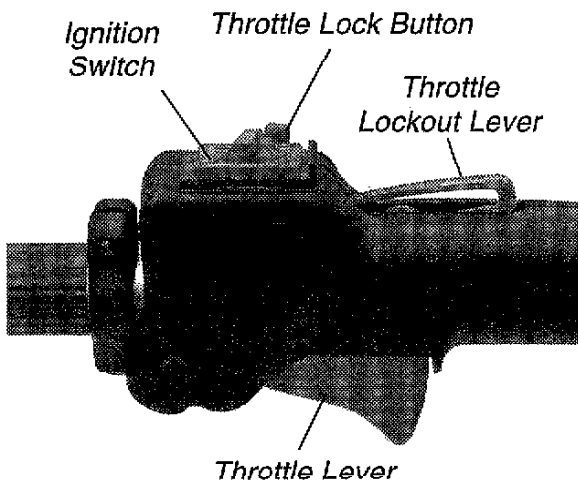

Figure 20
1. Set the throttle trigger to “fast idle” as follows (Figure 20):